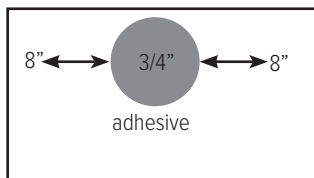

Figure 2.2.1
2.2.1 Apply adhesive on front vertical reveals as shown in Figure 2.2.1.